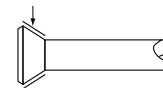

Fig. 15
- When connecting the flare nut, apply ester oil or ether oil to the flare section (outside only), and spin 3-4 times before screwing in. (Refer to Fig. 15)